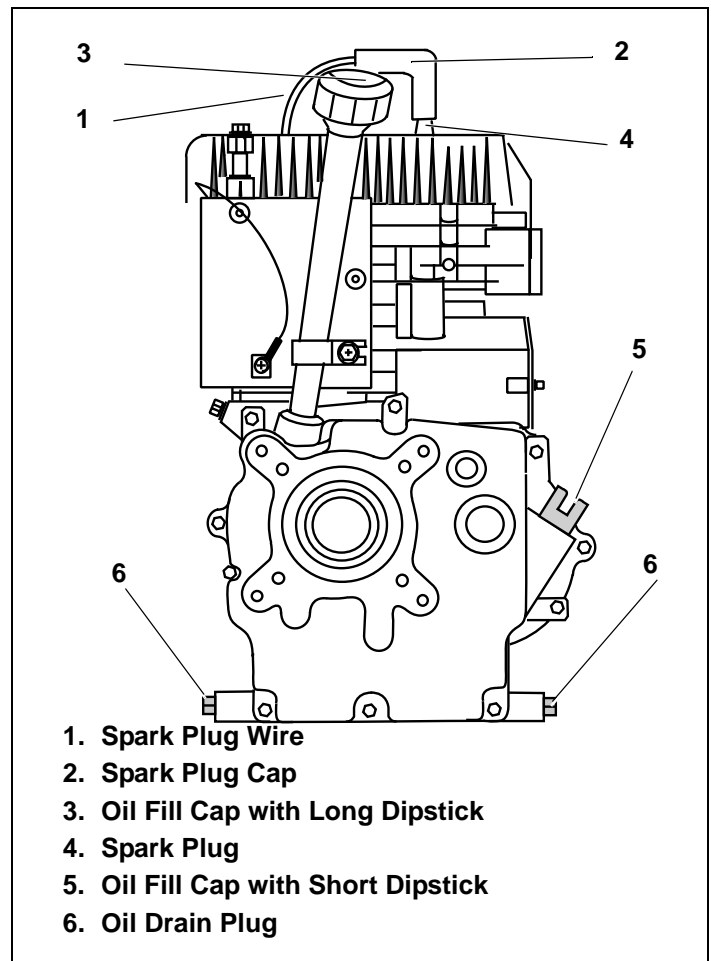

Figure 8. Engine Components
2. Unscrew oil fill cap/dipstick from oil filler tube and wipe dipstick clean. See Figure 8.